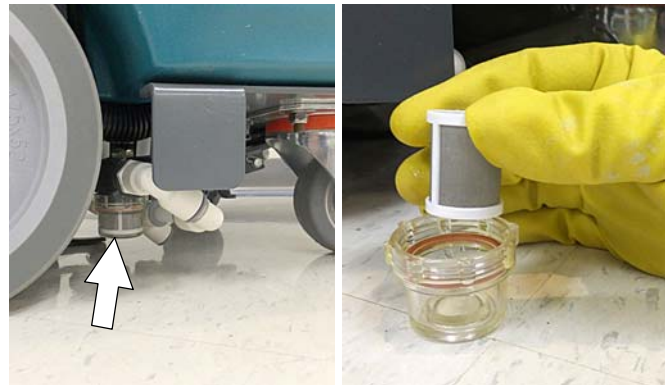

FIG. 51
4. Remove the solution tank filter and clean screen after every 50 hours of use (Figure 51). Solution filter is located under machine at rear. Drain solution tank before removing filter.